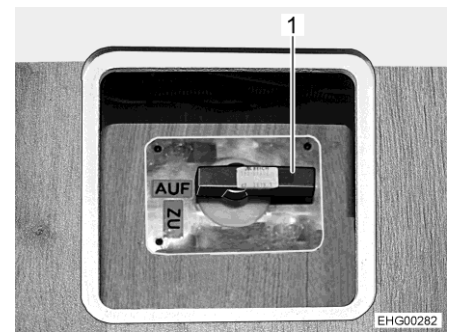

Fig. 108 Operating lever for waste water tap
- Open the drain cock. In order to do this, turn the operating lever (Fig. 108,1) to the open position ("AUF").
- Close the drain cock again. In order to do this, turn the operating lever (Fig. 108,1) to the closed position ("ZU").